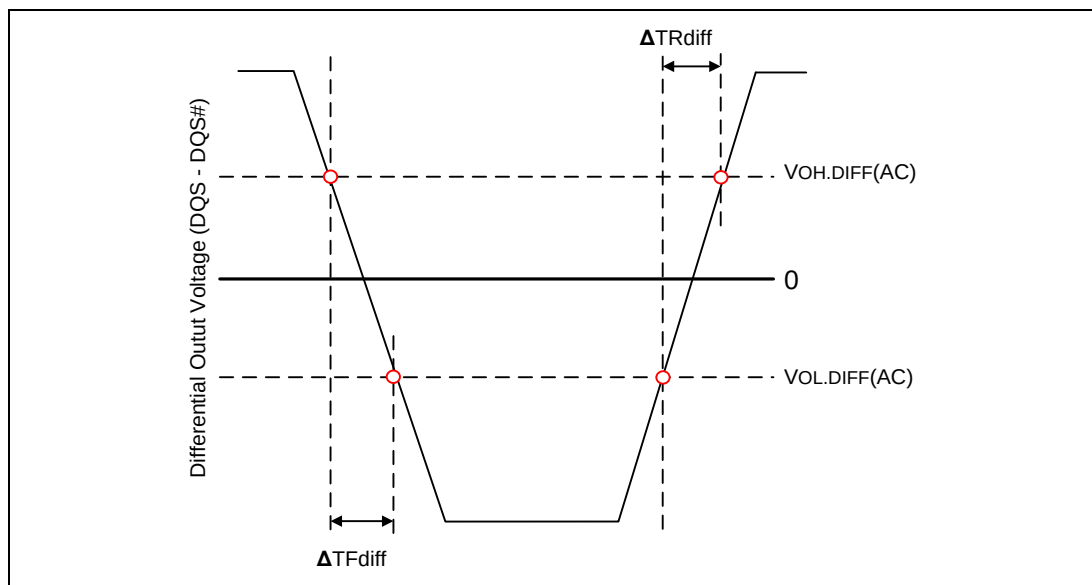

**Figure 95 – Differential Output Slew Rate Definition**
With the reference load for timing measurements, output slew rate for falling and rising edges is defined and measured between VOL.DIFF(AC) and VOH.DIFF(AC) for differential signals as shown in Table 29 and Figure 95.